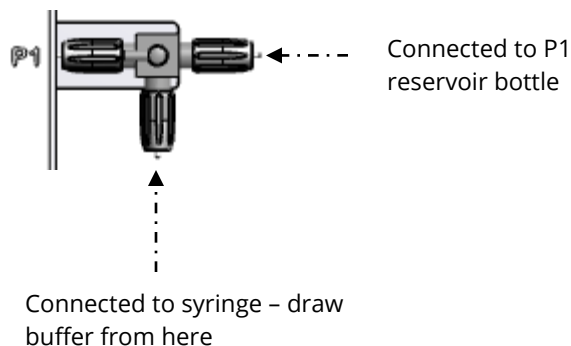

Figure 3.1a Filling tube from P1 to P1 3-way valve
- Fill the tubing leading from the P1 reservoir bottle (marked P1 at the top of the bottle) with the buffer that has been pre-warmed and pre-bubbled. The easiest way to do this is attach a syringe to the P1 -3way valve as illustrated and draw buffer from the bottle. The 3-way valve should be positioned as shown in figure 3.1a.